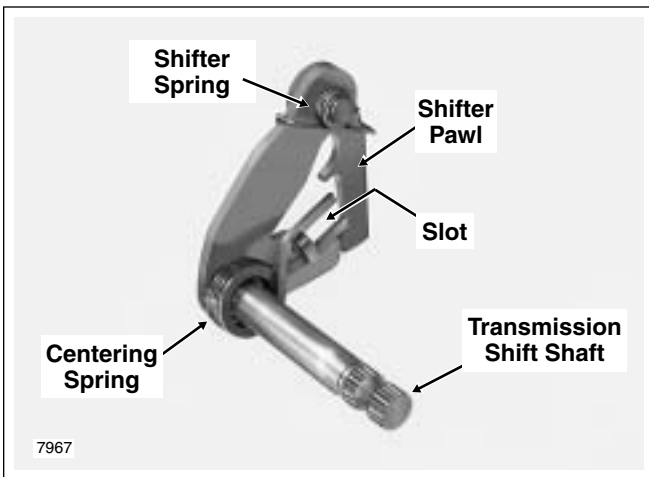

Figure 7-51. Shifter Pawl Assembly
5. Using a T50 TORX drive head, turn the centering screw out until it clears the centering spring slot of the shifter pawl assembly. Remove the retaining ring and flat washer from the transmission shift shaft. See Figure 7-51. Push on end of transmission shift shaft to free shifter pawl assembly from transmission case.